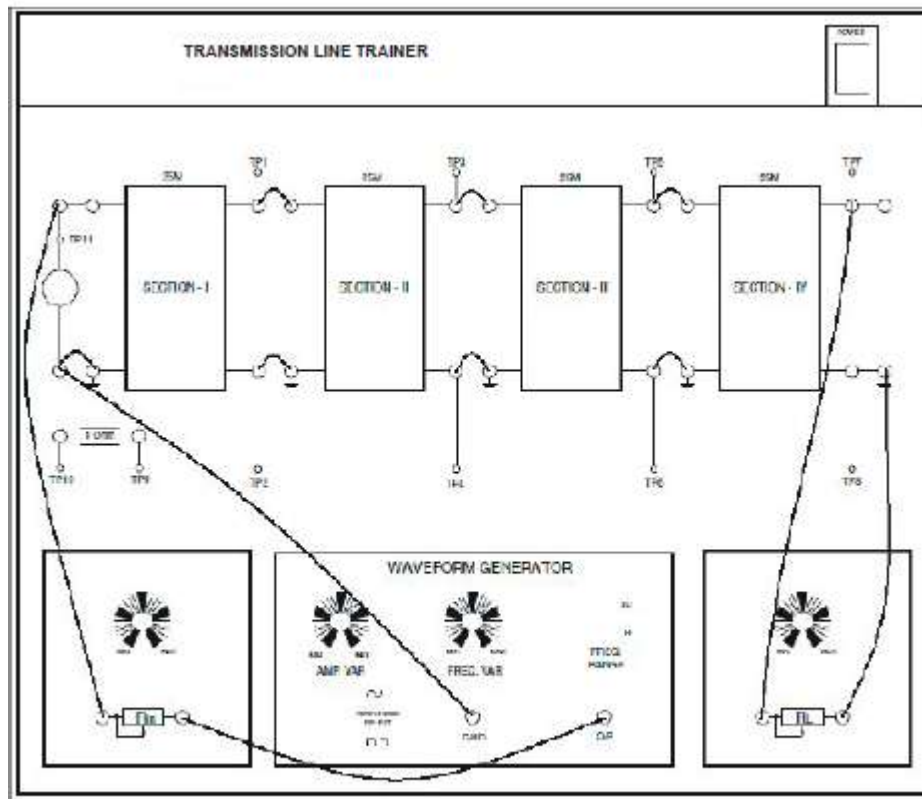

Fig. 14
2. Make connections as shown in Fig. 14.